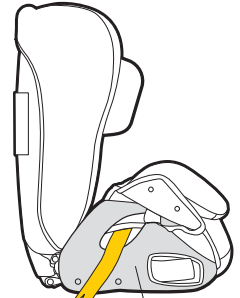

Figure 1.2 EXPOSED PLASTIC SHELL
- Step 2:** Fold the armrest covers forward to expose the plastic armrests & base (refer Figure 1.2).